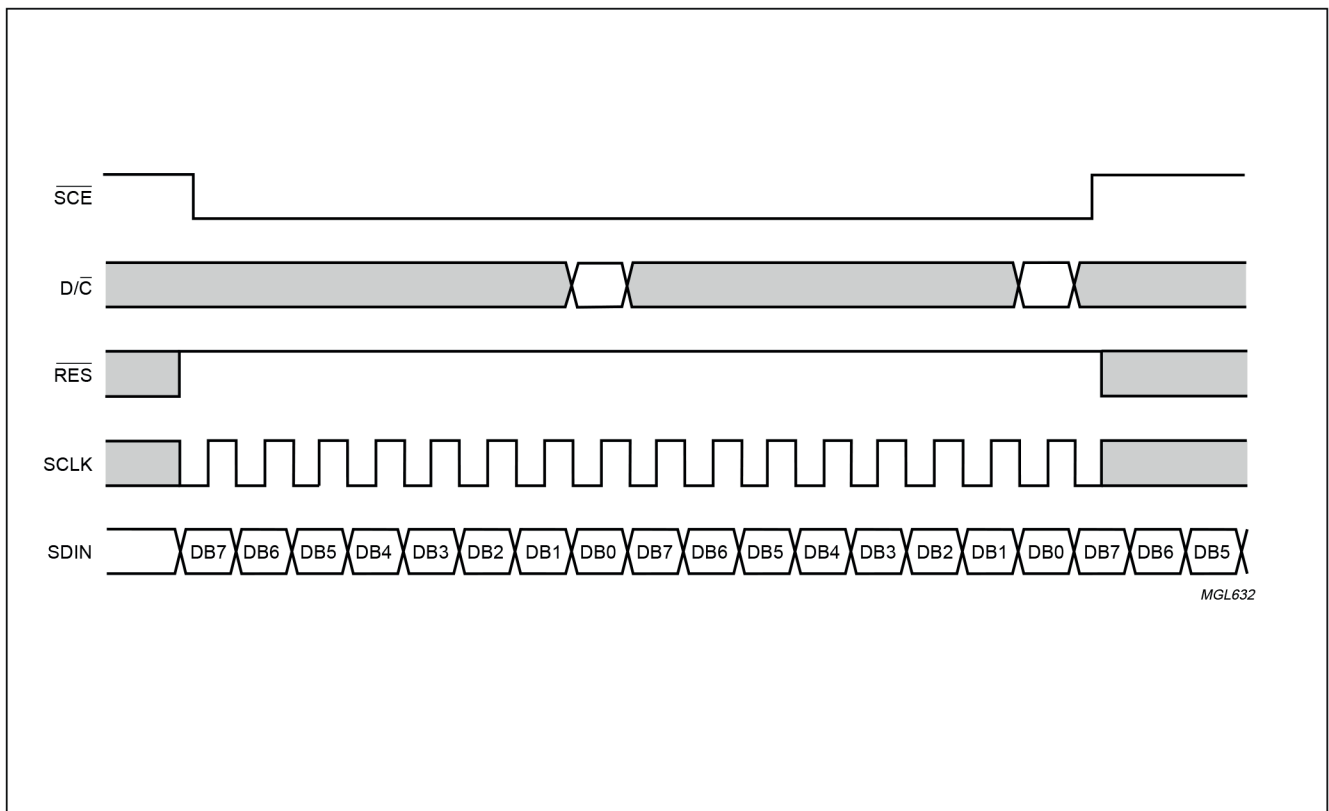

Figure 12 Serial bus reset function ($\overline{\text{SCE}}$).
- When \overline{SCE} is HIGH, SCLK clock signals are ignored; during the HIGH time of \overline{SCE} , the serial interface is initialized (see Fig.12)
- If \overline{SCE} stays LOW after the last bit of a command/data byte, the serial interface expects bit 7 of the next byte at the next positive edge of SCLK (see Fig.12)